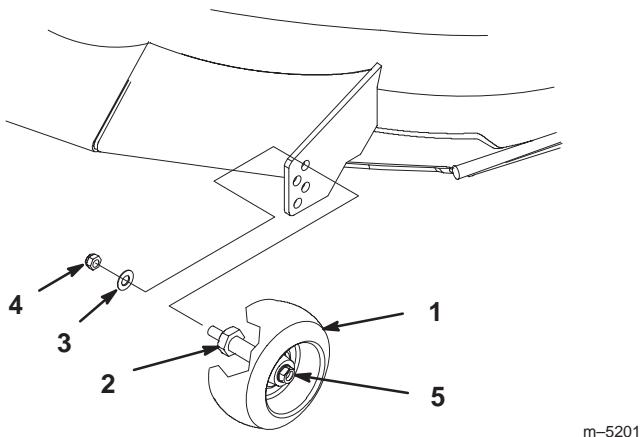

Figure 21
1. After adjusting height-of-cut remove nut and washer while holding stud with wrench (Fig. 21).
Note: Do not remove the wheel nut and washer (Fig. 21).
2. Select a hole position so the gage wheels are a minimum of 3/8 in. (10 mm) off the ground for the height-of-cut to be used (Fig. 21).
3. Reinstall the stud nut and washer (Fig. 21).